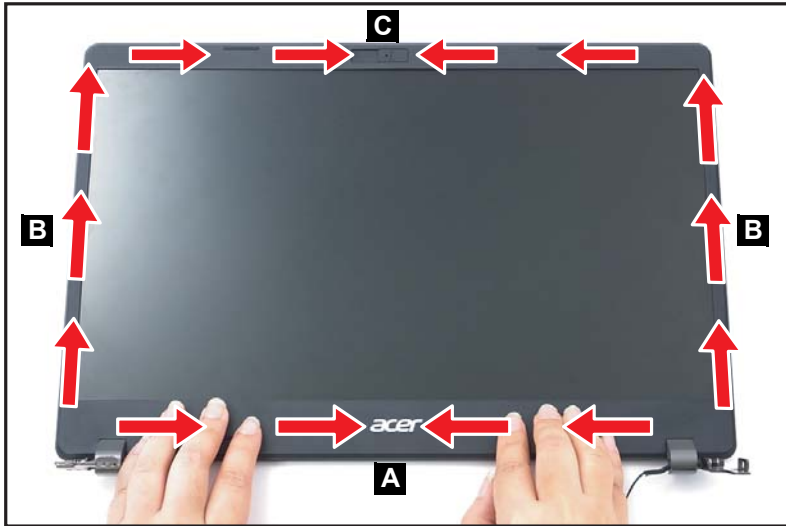

Figure 1-81. Replacing the LCD Bezel
2. Start pressing along the bottom side (A) of the LCD bezel to secure the latches to the LCD cover (Figure 1-81).
3. Continue pressing upward along the left and right sides (B) of the LCD bezel to engage the latches (Figure 1-81).
4. Finally, press along the upper side (C) of the LCD bezel to fully secure the bezel to the LCD cover (Figure 1-81).
When pressing on the latches, make sure to follow the direction of the arrows (Figure 1-81).